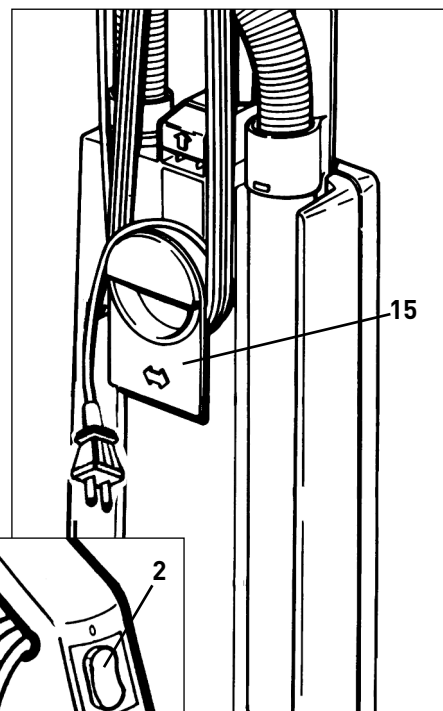

Figure 1
## Starting The Machine - Figures 1 & 2
1. Turn the quick release cable hook (#15, figure 1) to the up position by moving it to the left or right.